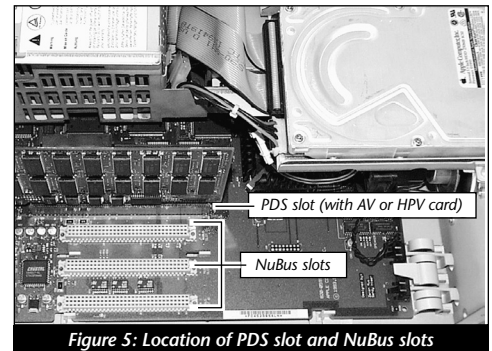

Figure 5: Location of PDS slot and NuBus slots
7. Locate the PDS slot (**Figure 5**). If there is a PDS card installed (such as the Apple AV or HPV card or Sonnet Crescendo card), remove it and set it aside.
8. Locate the NuBus slots (**Figure 5**). If any NuBus cards are installed, temporarily remove them so you have better clearance for installing the video adapter board. If you have three NuBus cards in your computer, you will only be able to reinstall two of them. The middle NuBus slot is required for the adapter board.